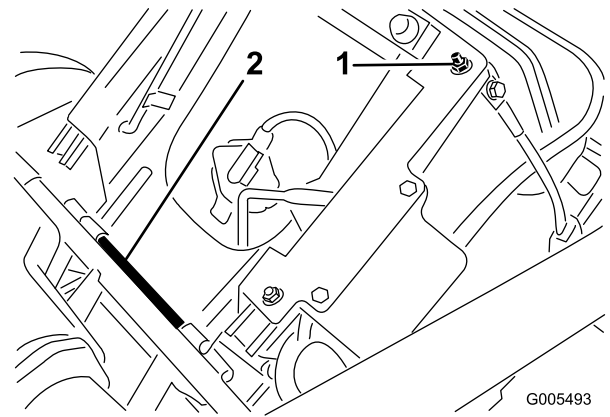

Figure 5
1. Remove the locknut (Figure 5) and seat bracket (used for shipping) attached to the right rear seat adjuster screw and discard them. Bracket not shown.
2. Remove the cotter pin and seat pivot rod securing the seat (shipping position). Remove the seat (Figure 5). Discard the cotter pin.